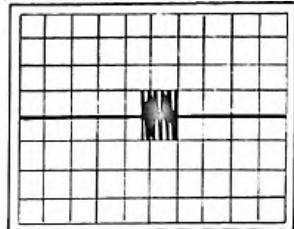

Fig. 2
- 4) Change to CH1, and set TIME/DIV to 0.5 msec, and view the index timing waveform as shown in Fig. 2, and make sure it is within  $1700 \mu\text{s} \pm 1700 \mu\text{s}$ .